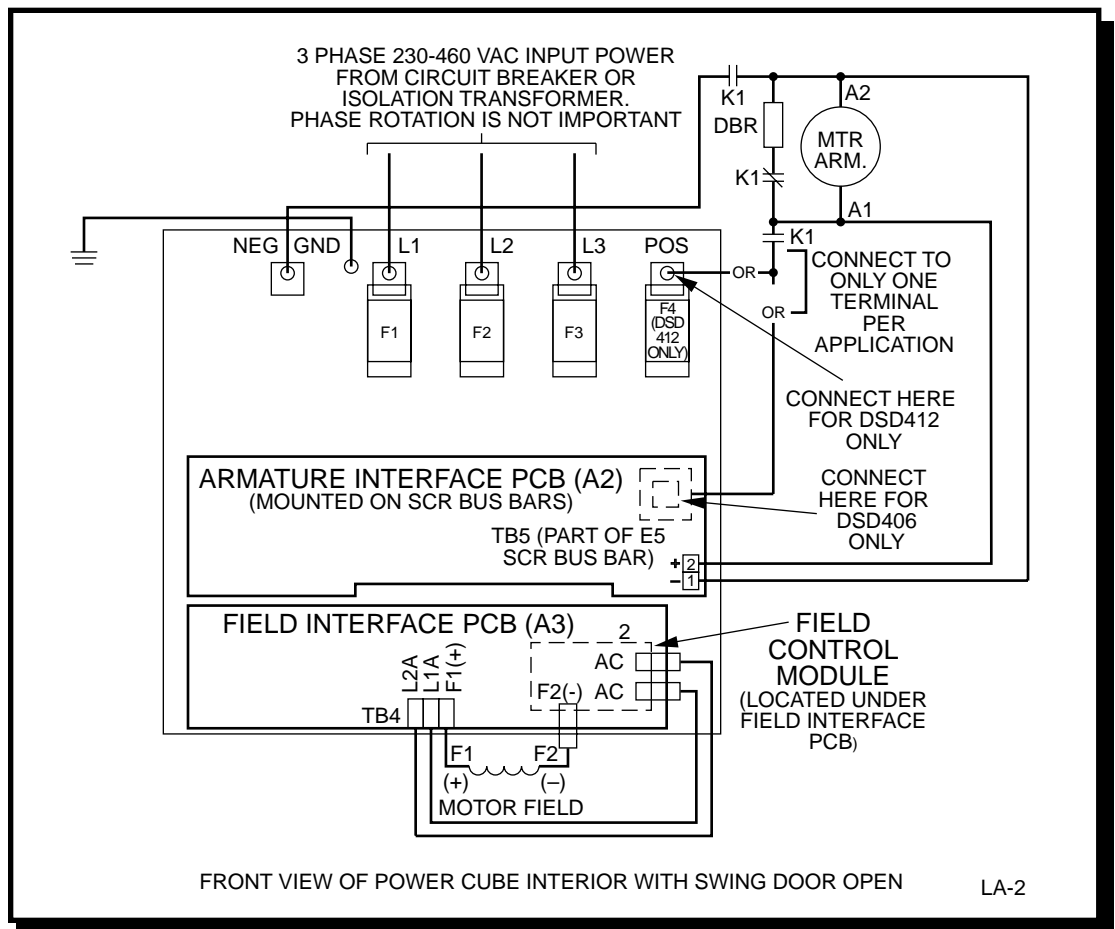

Figure 5. Basic Connections for DSD Power Cube – Ratings up to 206 Amps
If only a power cube was ordered, the following connections need to be made (refer to Figures 5 and 6 for location of terminating points on drives rated up to 330 Amps):
- ❑ On units rated at 206A armature current (206A I_{arm}) or less, connect the three phases of the line from the load side of the isolation transformer or input circuit breaker to fuses F1, F2, and F3 (marked L1, L2, and L3). (Refer to Figure 5.) Phase rotation is not important.
- ❑ On units rated 206A Iarm or less, connect the motor armature A1 lead through contactor N.O. contact to fuse F4 (in a DSD 412) or terminal E5 (in a DSD 406). (Refer to Figure 5.)
- ❑ On units rated at 206A Iarm or less, connect the motor armature A2 lead through armature contactor N.O. contact to terminal 'NEG'. (Refer to Figure 5.)
- ❑ On units rated at 206A or less, connect the motor field lead F1 (+) to A3TB4(F1+), and motor field lead F2 (-) to Field Control Module (F2-). (Refer to Figure 5.)
- ❑ On units rated at 206A Iarm or less, connect armature voltage sensing lead (A1) to Armature Interface PCB(A2) TB5-2(+), and connect armature voltage sensing lead (A2) to Armature Interface PCB TB5-1(-). (Refer to Figure 5.)
- ❑ If dynamic braking resistors (DBR) are to be used, connect across motor armature in series with loop contactor N.C. contact. (See Figure 5.)